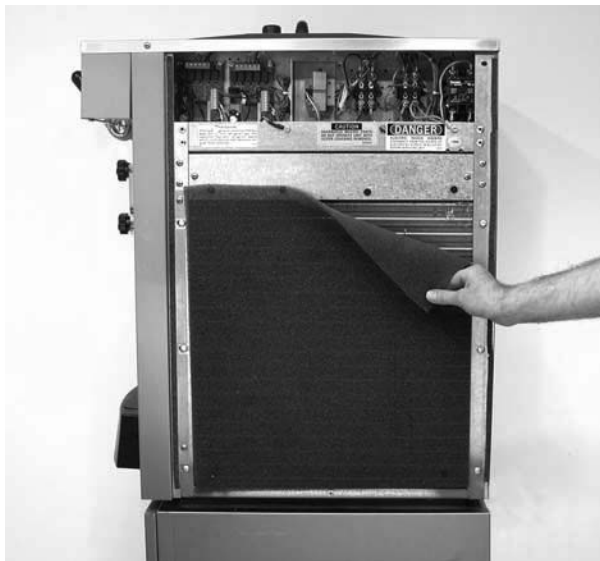

Figure 4-5 Condenser Filter Removal
- B. To remove the condenser filter, grasp the top and pull off. Visually inspect for dirt. If the filter is dirty, shake or brush excess dirt off the filter and wash in warm, soapy water. Once the filter is clean rinse thoroughly in warm, clear water and shake dry, taking care not to damage the filter in any way (Figure 4-5).